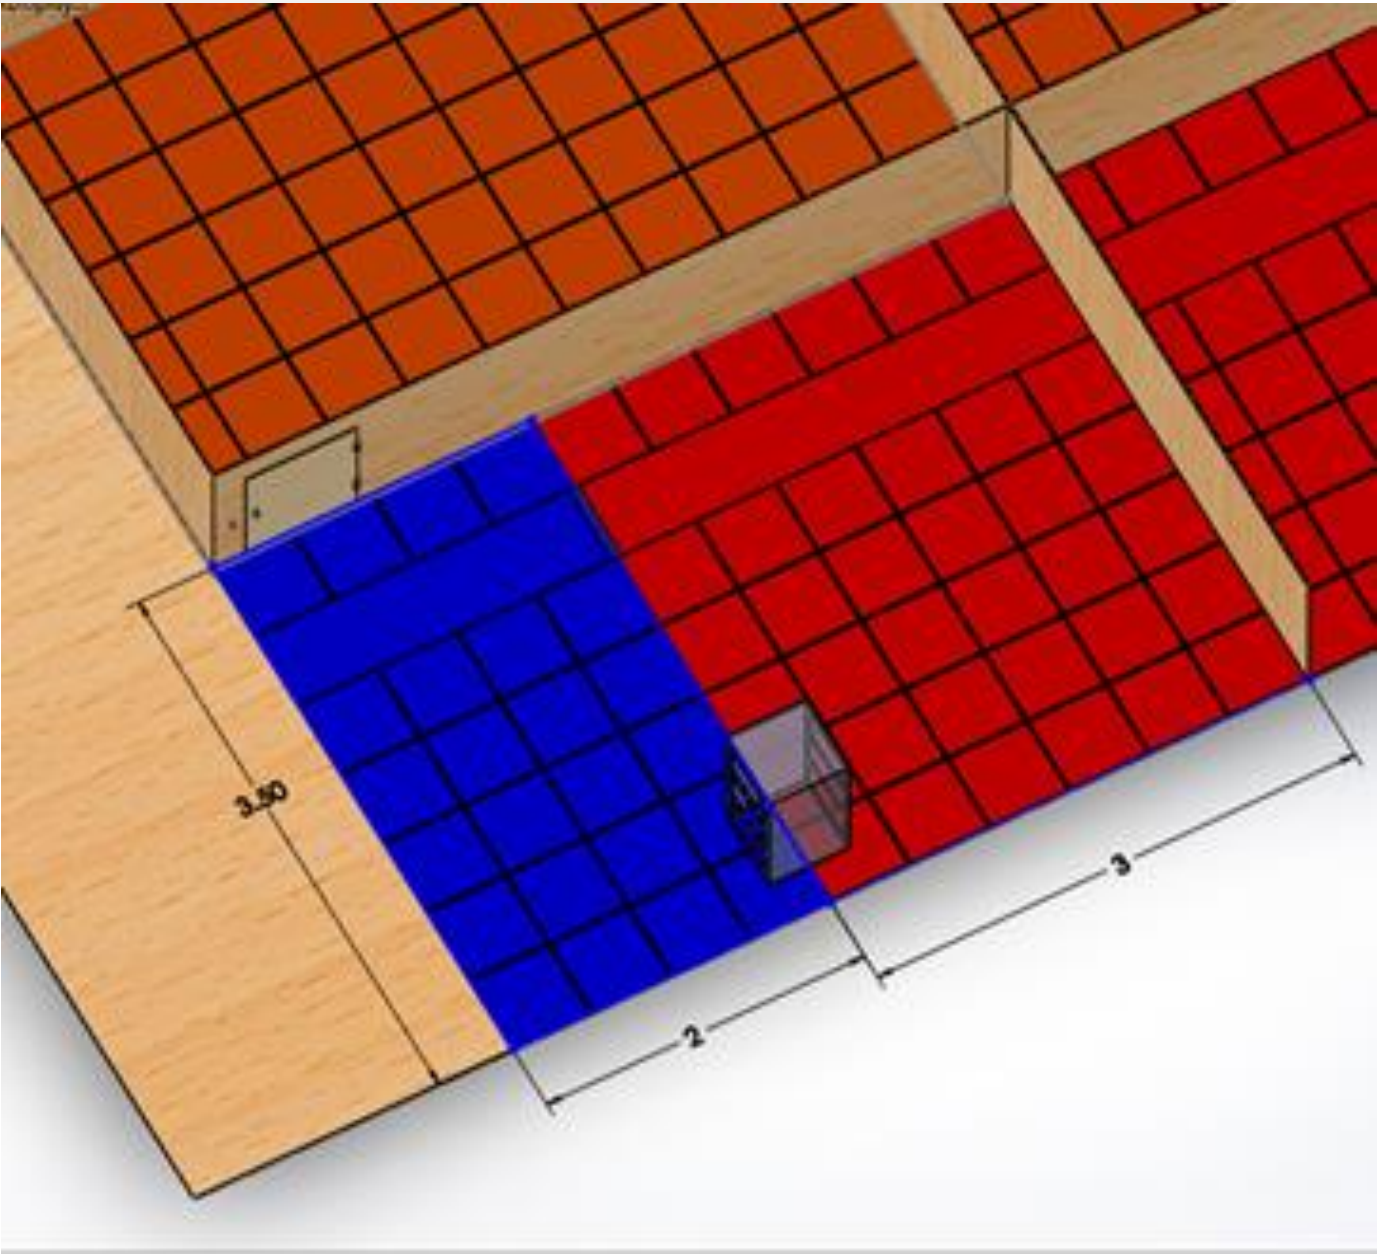

Figure.10: Top view of wooden cuboidal
- Wooden cuboidal box with 3 drawer : Dimension of cuboidal is $0.50\text{m} \times 0.50\text{m} \times 0.42\text{m}$, dimension of drawer is $0.50\text{m} \times 0.40\text{m} \times 0.10\text{m}$. Each drawer is 0.03m apart vertically (Figure.10&11)